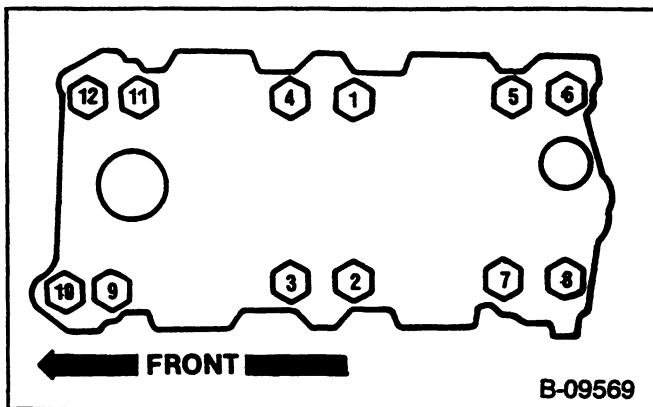

Figure 9—Intake Manifold Bolt Tightening Sequence
- Intake manifold bolts to 48 N-m (35 ft. lbs.). Use the tightening sequence shown in figure 9.